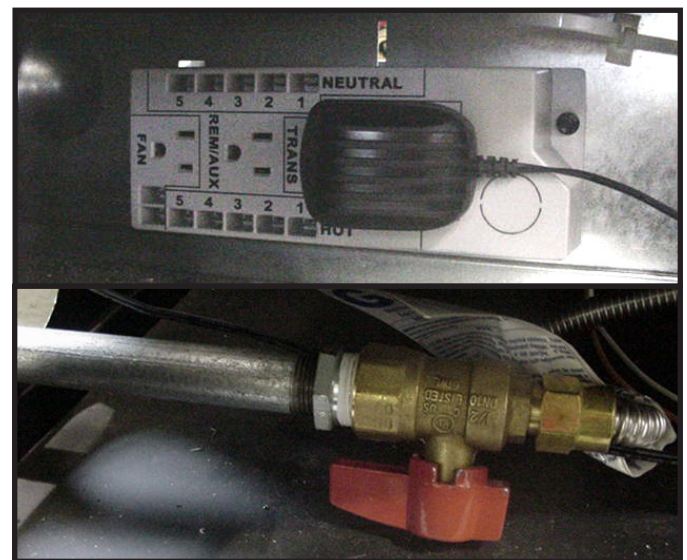

Figure 11.2
Step 1. Turn off gas to valve. Red gas shutoff knob is located on ball valve. Disconnect the 6 volt transformer from the junction box. See Figure 11.2